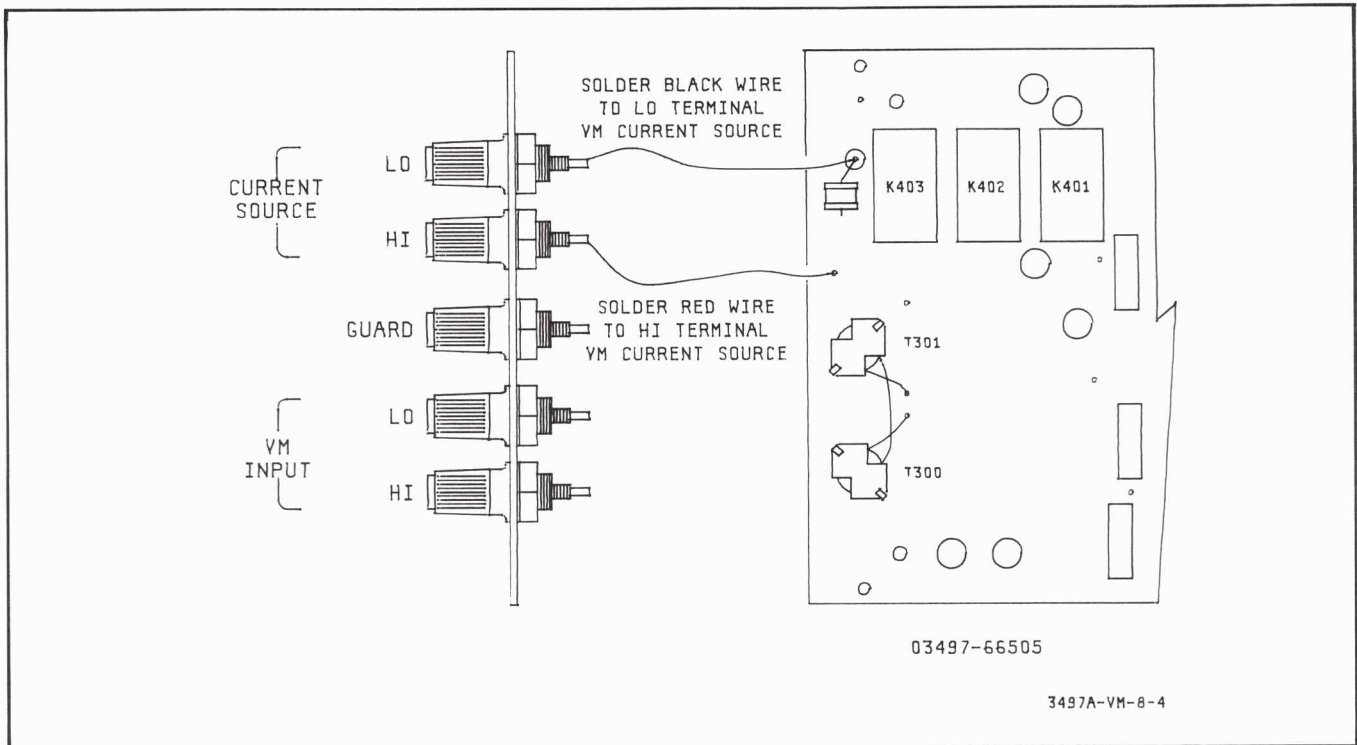

Figure 2-7. Voltmeter Connection
d. Locate the other red and black twisted pair plugged into the voltmeter board. Wrap the red wire around the binding post of the CURRENT SOURCE HI Terminal and wrap the black wire around the binding post of the CURRENT SOURCE LO Terminal, as shown in Figure 2-7. Using a low wattage (25 Watt) soldering iron, solder the red and black wires to their respective terminals.